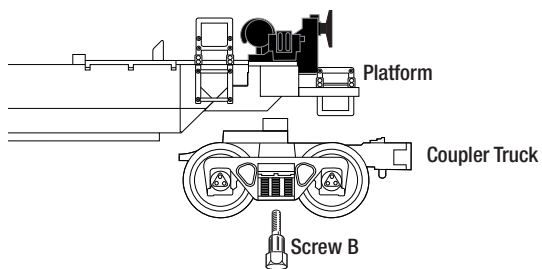

Figure 4a. Truck removal
- On the second Maxi-Stack Set, remove the truck from the brakewheel end. Again, use a 3/16" nut driver to remove the hex-head screw (labeled "B" in the parts list) from the bottom of the truck. See figure 4a.